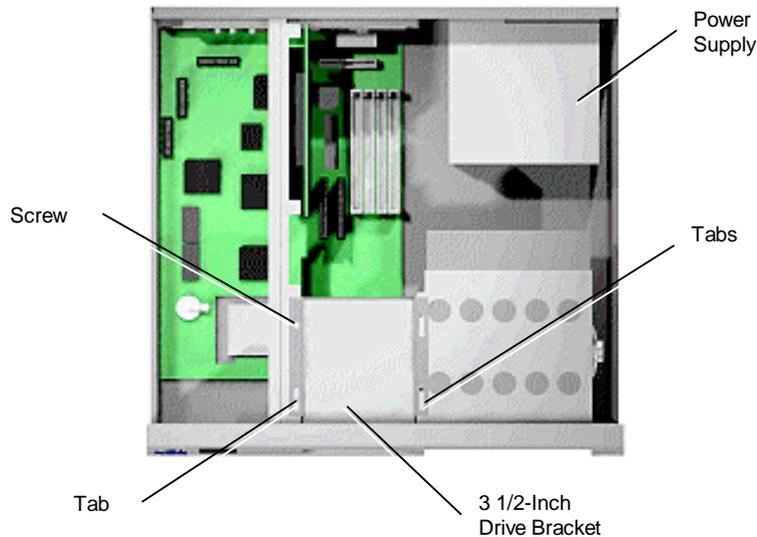

Figure 3-20 Removing the 3 1/2-Inch Drive Bracket
2. Remove the screw securing the drive bracket to the chassis (see Figure 3-20).